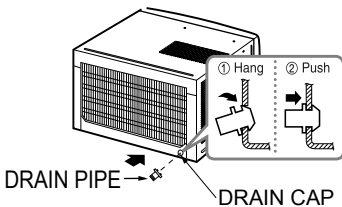

Fig. 2
- 2) After assembling washer and drain pipe, secure the drain pipe to the rear hole of the base pan. (Fig. 2) Press the drain pipe into the hole by pushing.